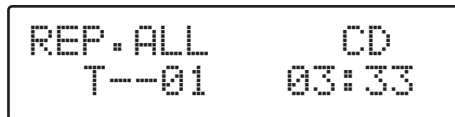

Fig 11.
2. Press the REPEAT button again to repeat all tracks on the disc. (Fig 11)